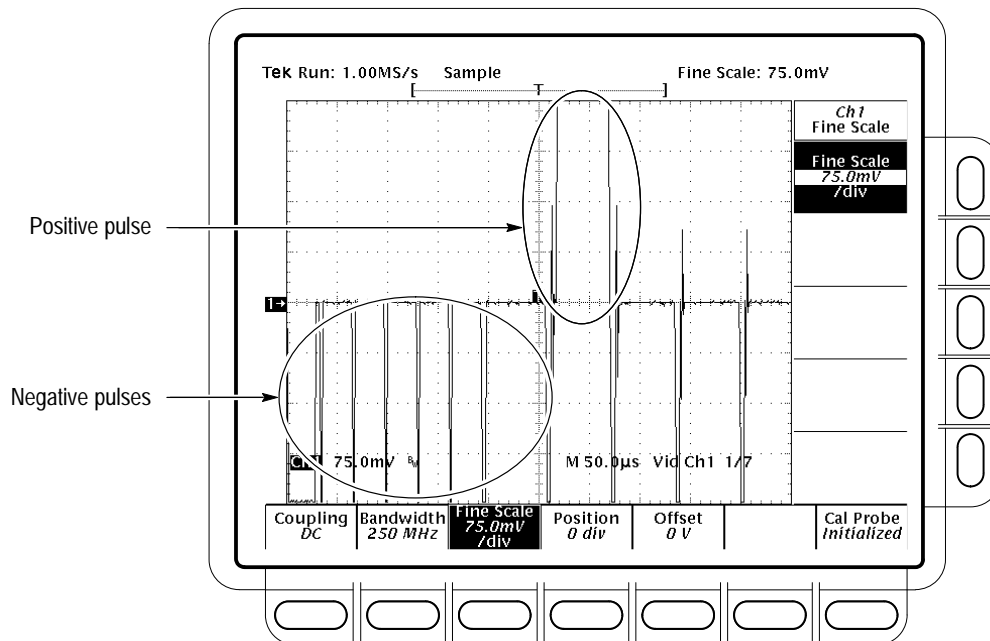

Figure 1-30: Triggered Signal Range Test – 75 mV
- o. CONFIRM that the **TRIG'D** LED stays lighted and that the waveform on screen is stable. That is, it does not move horizontally or vertically. Also, CONFIRM that the waveform on the screen has one positive pulse and a number of negative pulses. See Figure 1-30.